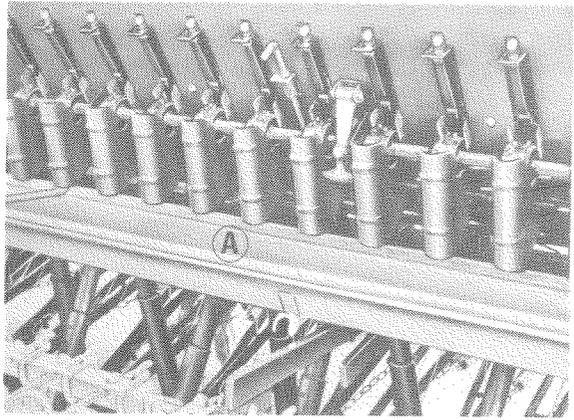

Fig. 15
- Insert the calibration tray A under the seed housings (Fig. 15).